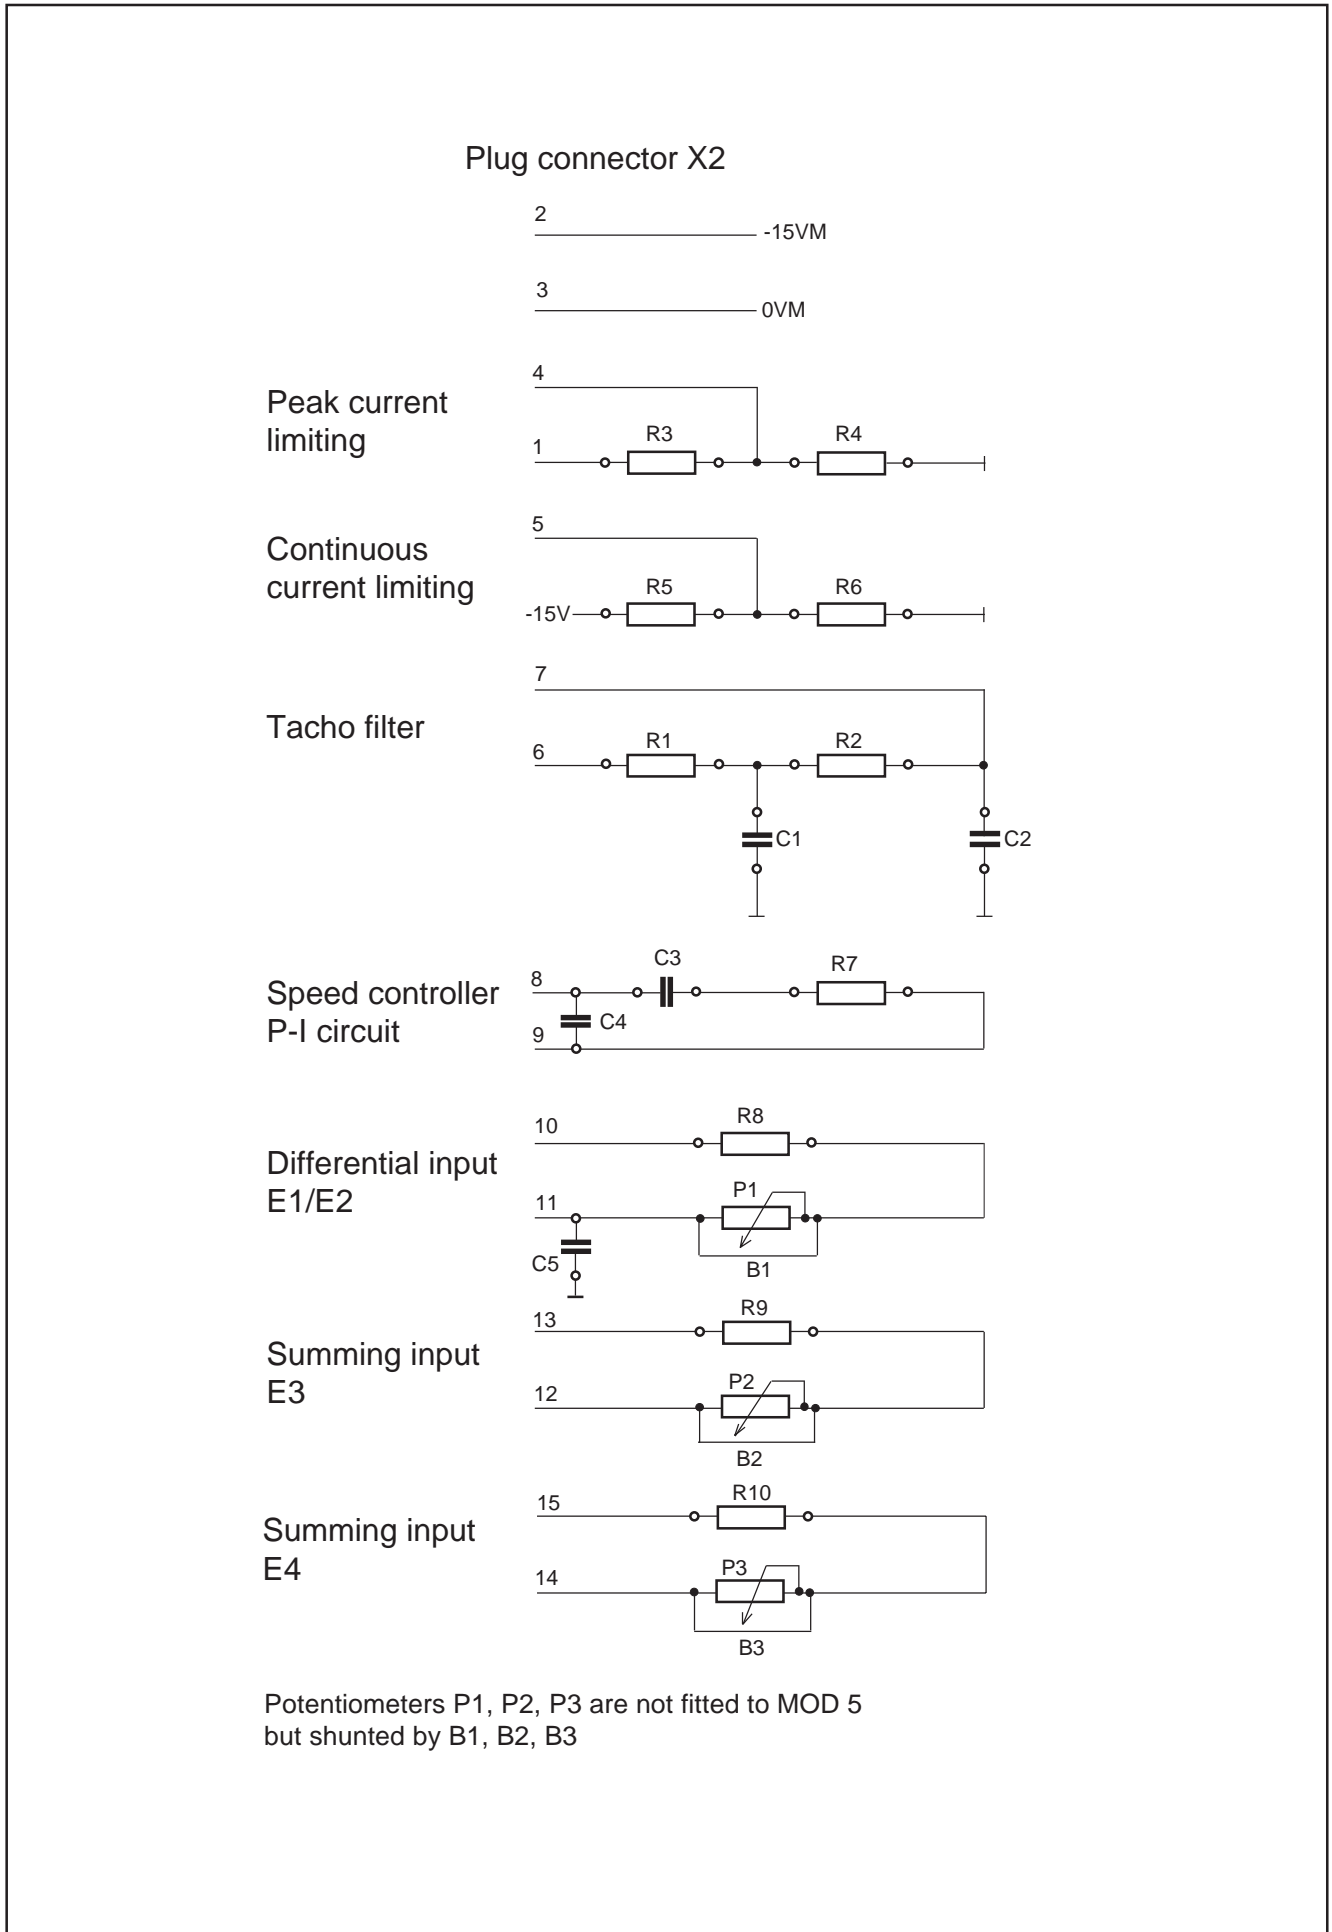

Fig. 24: Circuit diagram: MOD 5, MOD 6 for TDM 2 drive module
- Fig. 24 Circuit diagram: MOD 5, MOD 6 for TDM 2 drive module